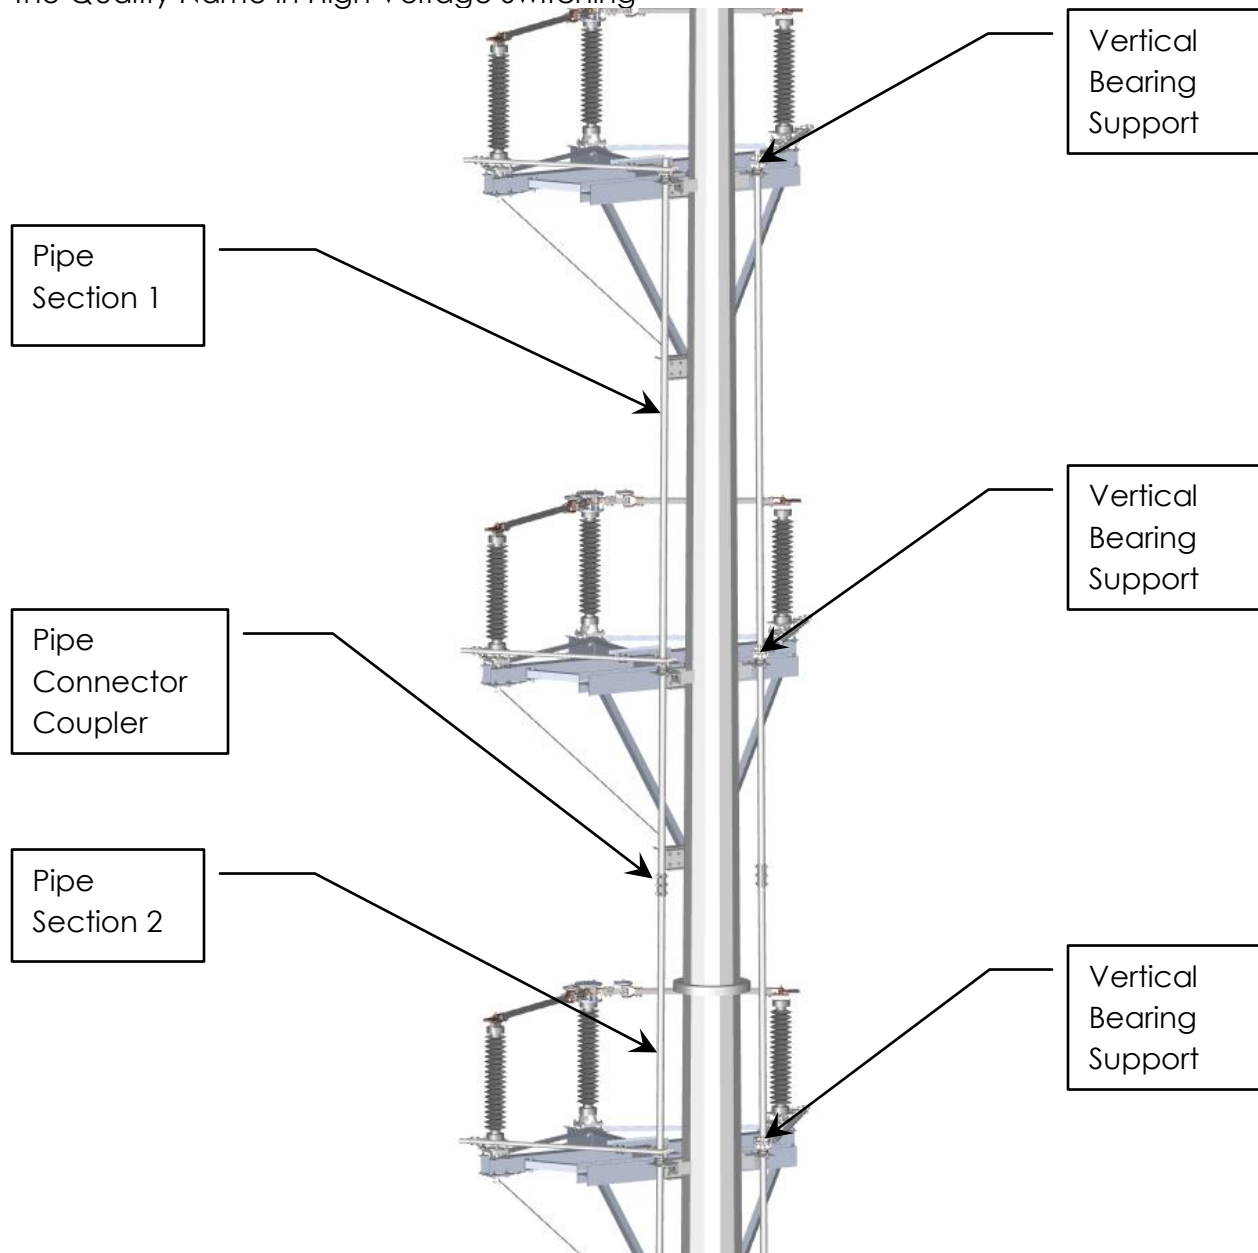

Figure 24: Typical Vertical Bearing Support Locations
7. Repeat steps 4 through 6 at every bearing support as more vertical operating pipe sections are added. See Figure 24.